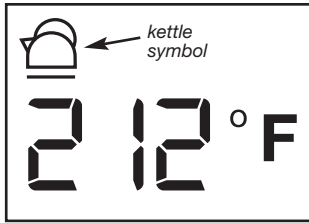

Fig. 3a
6. Plug cord into outlet. The display illuminates and shows the kettle symbol and 212°F (Fig. 3a).
If you turn the kettle on without water in the kettle, the heater will shut off after a few seconds. The display will go blank. Once the kettle has cooled down, the display will come back on again. This can take several minutes. To speed up this process you can fill some cold water into the kettle. You will hear a clicking noise. This indicates that the thermostat has reset itself. If you place the kettle back on the power base, the display will show the default setting again (Fig. 3a).
- Fill your kettle with the desired amount of cold fresh water. Place on power base. The display shows the default setting (Fig. 3a).
- The display shows the default setting (Fig 3a).